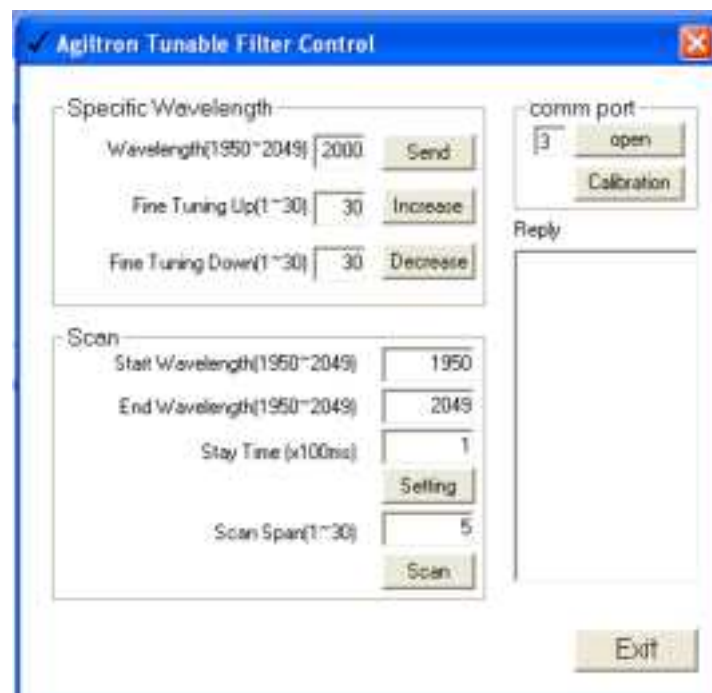

Fig.2 User Interface
- (1) Connect the Tunable Filter with the PC by the USB cable.
- (2) Power the Tunable Filter with the "5V DC power supply adapter" in the package.
(3) Run the file "Motorcon.exe". The user interface "Agiltron Tunable Filter Control" shows on the monitor if the PC communicates with the Tunable Filter successfully. See Fig. 2.